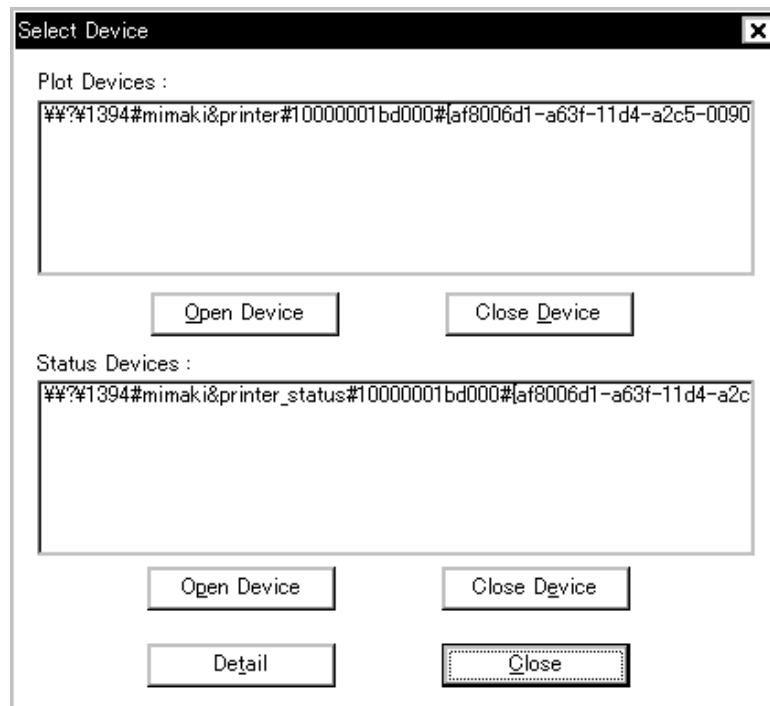

Figure 1 Select Device window
2.2 This tool starts up and the window shown in Figure 1 opens.